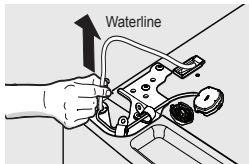

Figure 3
3. Pull up on water line gently to remove from door. See Figure 3.